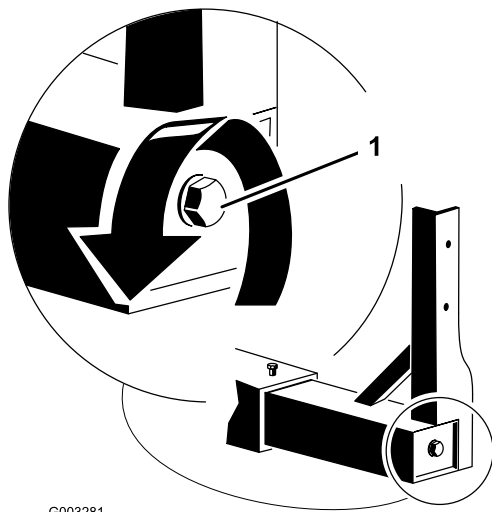

Figure 1
5. Loosen the boom frame bolts by no more than 3 revolutions (Figure 1).